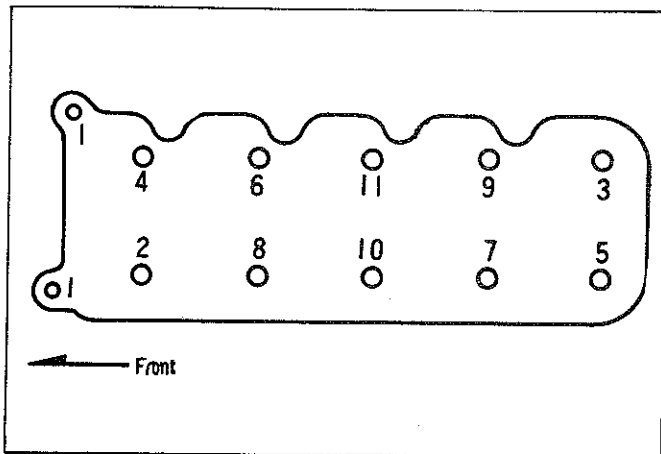

Fig. 6—Cylinder head bolt removal sequence
(10) Remove the camshaft sprocket bolt and remove the sprocket from the camshaft.
(11) Loosen the cylinder head bolts using Tool E9M20, in two stages to prevent cylinder head warpage — use order shown in Fig. 6.